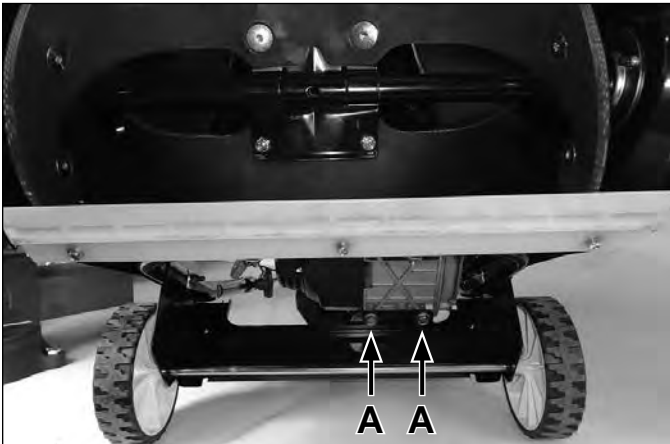

Fig. 008
2. From the underside of the chassis, install the two engine mounting bolts (A). Torque to 14-18 ft-lbs (19-25 Nm) (Fig. 008).